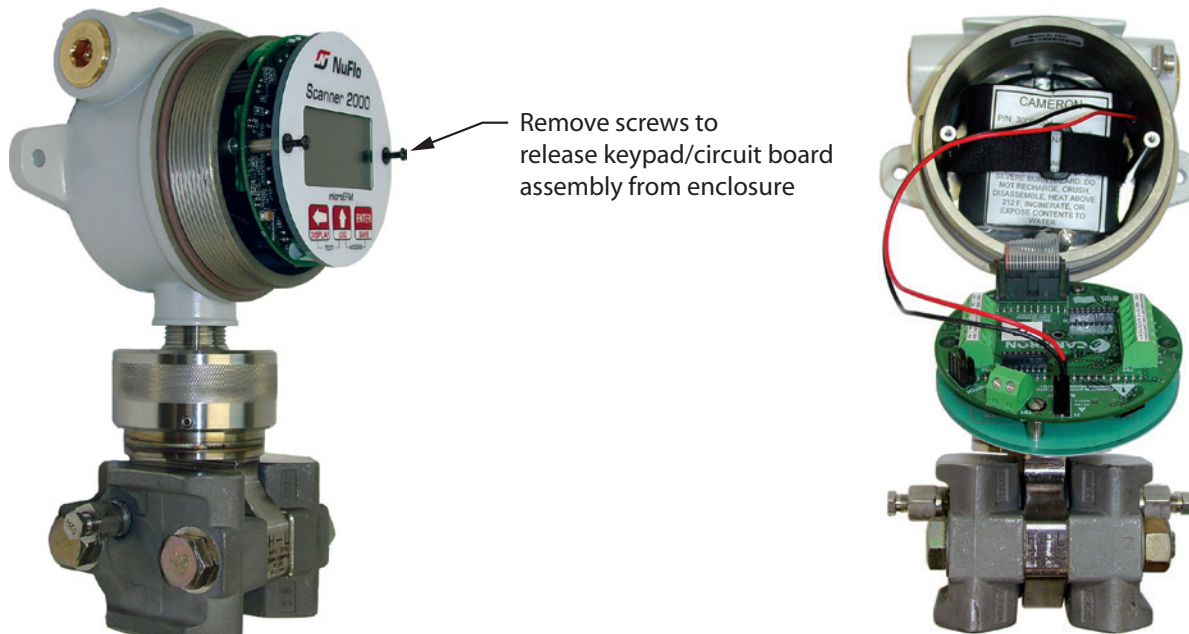

Figure 5.1—Removal of the battery pack from the enclosure
2. Using a small standard blade screwdriver, remove the two #4-40 × 7/8-in. screws located to the right and left side of the display (Figure 5.1, page 80).
4. Loosen the velcro strap, disconnect the battery from the J1 connector on the circuit assembly, and remove the spent battery pack from the enclosure (Figure 5.1).
2. Using a small standard blade screwdriver, remove the two #4-40 × 7/8-in. screws located to the right and leftside of the display (Figure 5.1, page 80).